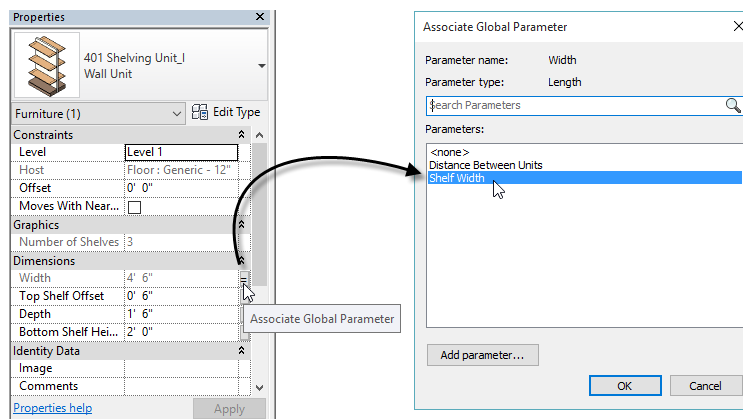

Figure 45
3. Click the Add Parameter button and create a new parameter called: **Shelf Width** (see Figure 45).